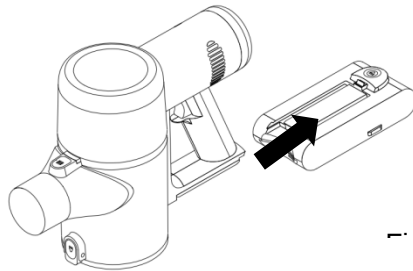

Figure 24
1. This product is a lithium battery product. When the battery is damaged or the battery life has expired, please remove the battery pack and replace it at the maintenance location designated. How to remove the battery pack: hold the main unit with one hand, and press the battery release button with the other hand to remove it from the main unit (Figure 24).